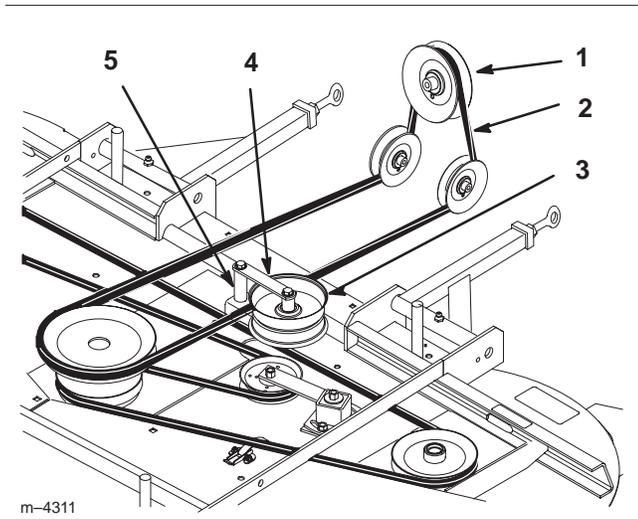

Figure 50
3. Remove PTO drive belt from clutch, around rear idler pulleys and off of mower top center pulley (Fig. 50).
4. Remove bolt, nut, washer and spacer from idler pulley bracket assembly. Remove belt from bracket assembly (Fig. 50).
6. Install belt into idler pulley bracket assembly. Install bolt, nut, washer and spacer into assembly (Fig. 50).